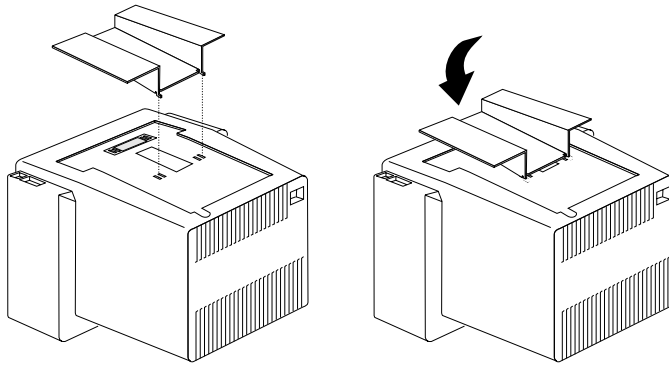

Figure 8. Attaching the monitor stand to the monitor
- f. Insert the two tabs at the rear of the monitor stand (opposite of the hook-and-loop fastener strip) into the two rear mounting slots in the bottom of the monitor. Then pivot the monitor stand forward to press the “hook” and the “loop” strips of the hook-and-loop fastener together (see Figure 8).